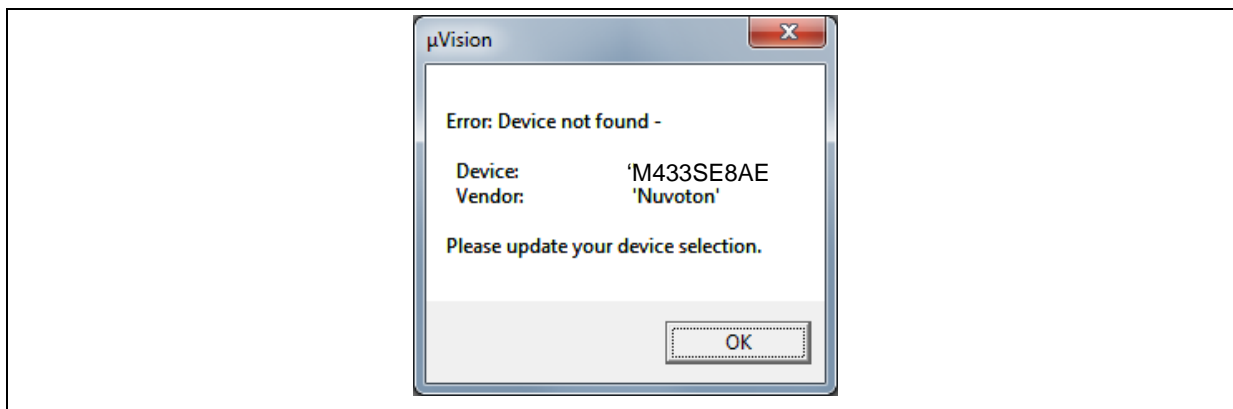
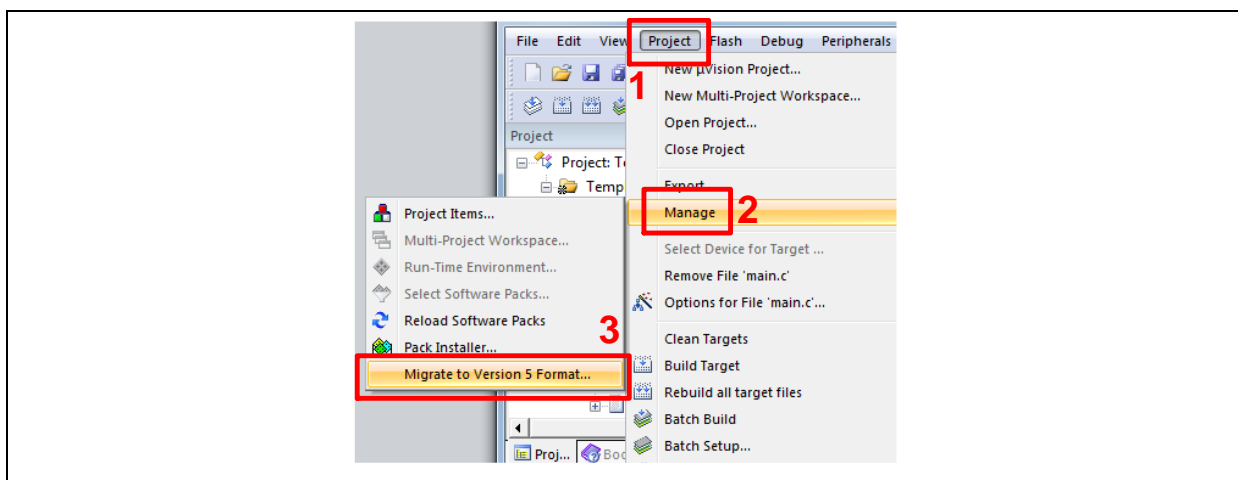

Figure 3-8 Warning Message of “Device not found”
Figure 3-9 Project File Migrate to Version 5 Format
**Note:** If Figure 3-8 warning message jumps out, please migrate to version 5 formats as shown in Figure 3-9. The “.uvproj” filename extension will change to “.uvprojx”.